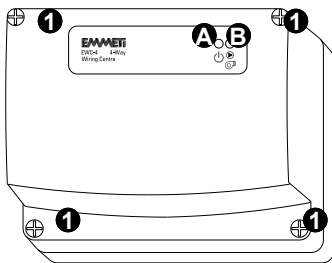

Fig. 1: External aspect.
The wiring centre is equipped with a 4A time-delayed fuse (F1) which protects the wiring centre itself as well as the loads connected to it. There are two LEDs on the device front panel, shown in Fig. 1:
- Remove the 4 screws labelled as ① in Fig. 1 to remove the front plastic cover.
- The front panel to the enclosure and fasten in place with the four screws ① in Fig. 1.